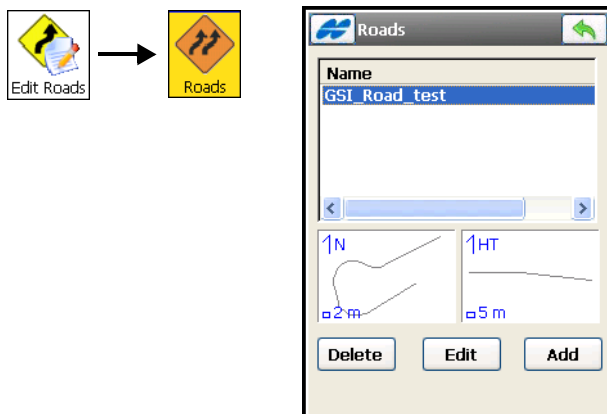

Figure 7-1. Roads
- Tap the ok  button to save the road file and return to the **Roads** screen (Figure 7-1 on page 7-2).
- 4. After the road is edited, calculate the road points using the *Calculate Road Points* option from the Help Icon menu in the upper-left corner of the **Roads** screen (Figure 7-1 on page 7-2).